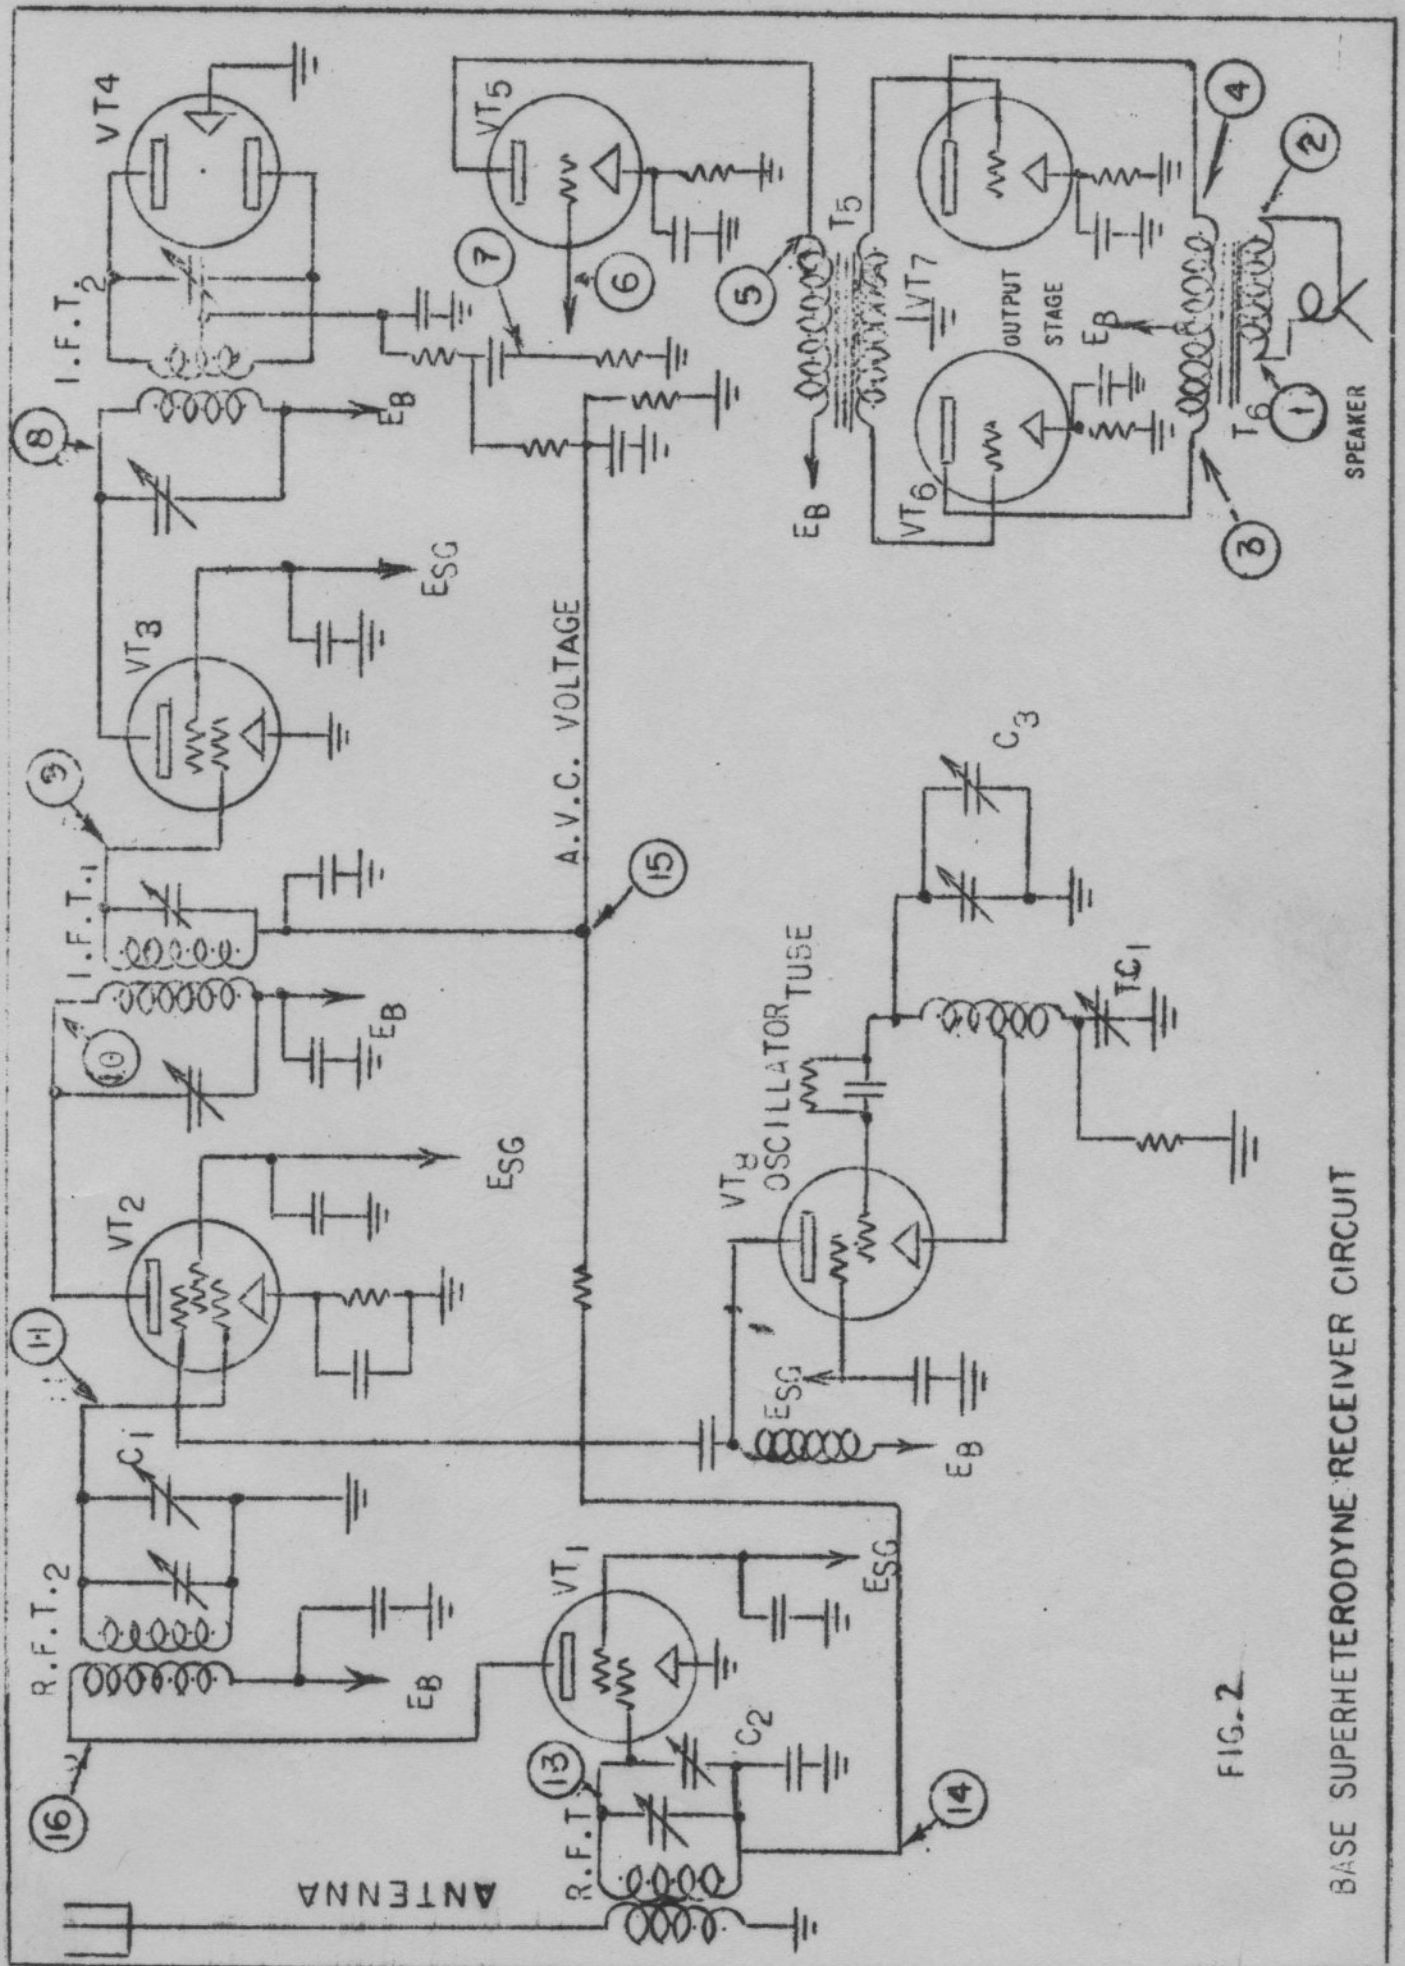
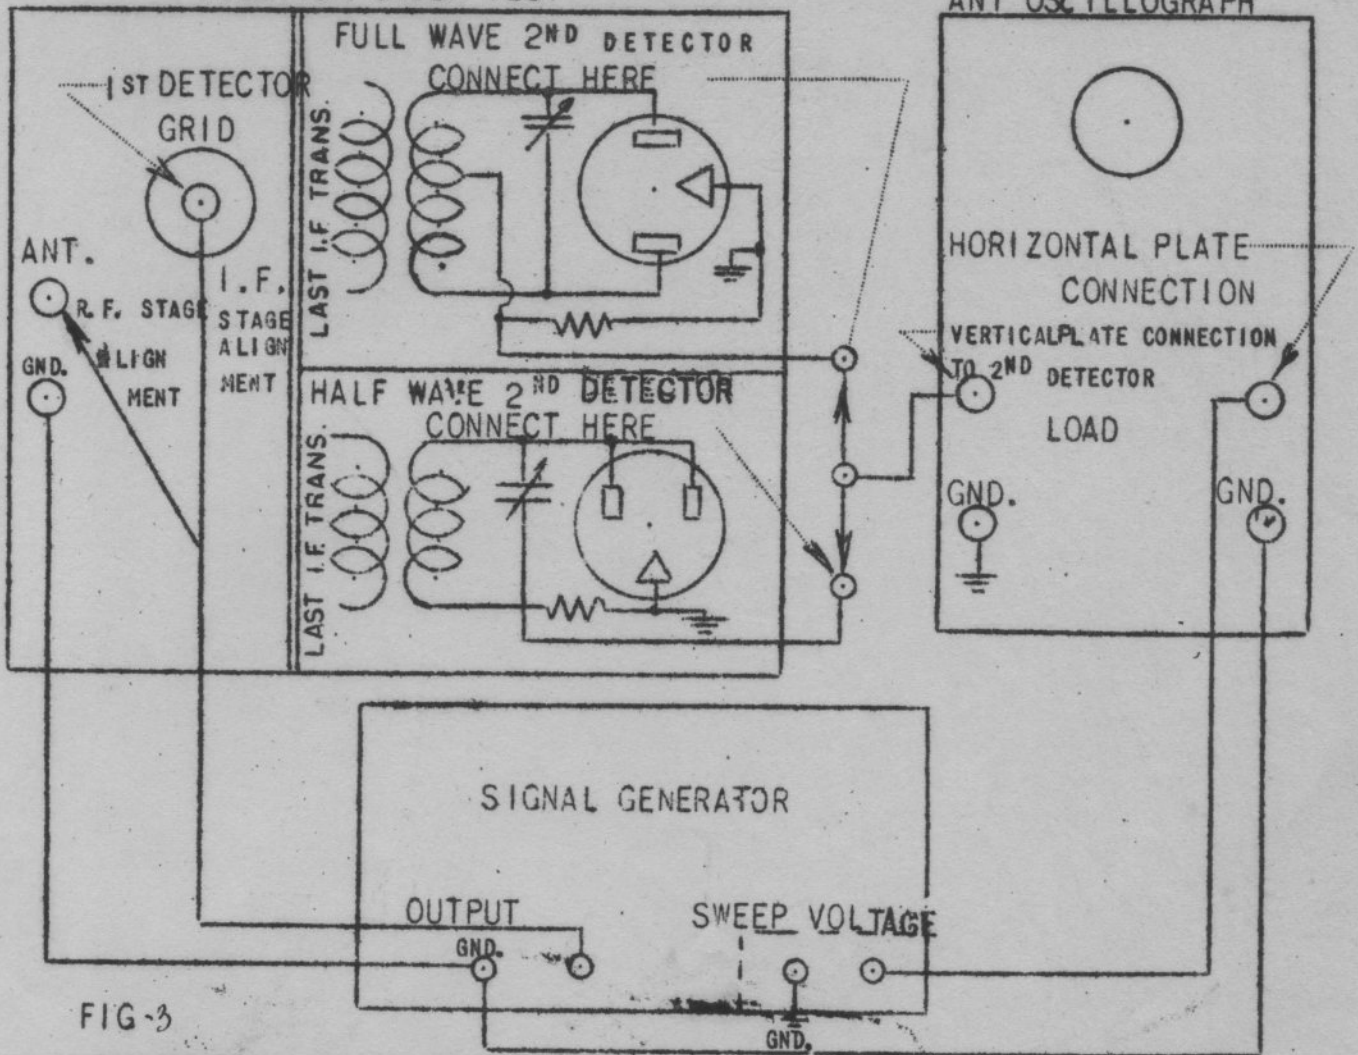

FIG. 2
FIG. 3
3. CONNECTIONS OF THE SIGNAL GENERATOR TO THE RECEIVER: (See Fig. 2 which is the basic circuit employed in modern superheterodyne receivers, and Fig. 3, which shows the panel layout and connections
13. CONNECTION OF THE SIGNAL GENERATOR TO THE AMPLITUDE MODULATED RECEIVER FOR FREQUENCY MODULATED ALIGNMENT: Fig. 3 illustrates the proper connections from model 238X signal generator to any oscillograph and receiver under test.